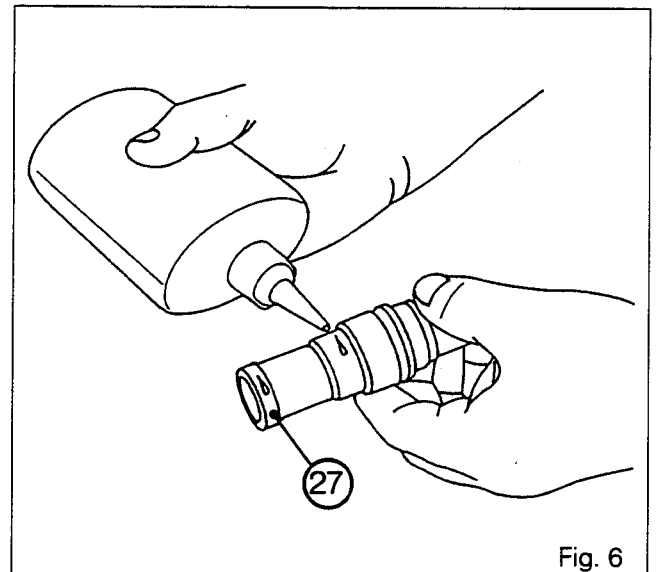

Fig. 6
**Note:** The valve (8) is fitted in the support housing (9).
The sleeve (27), smeared with Loctite 648 (Fig. 6) is fitted with a press. If disassembly proves necessary, check when reassembling that the channel is not obstructed with Loctite.